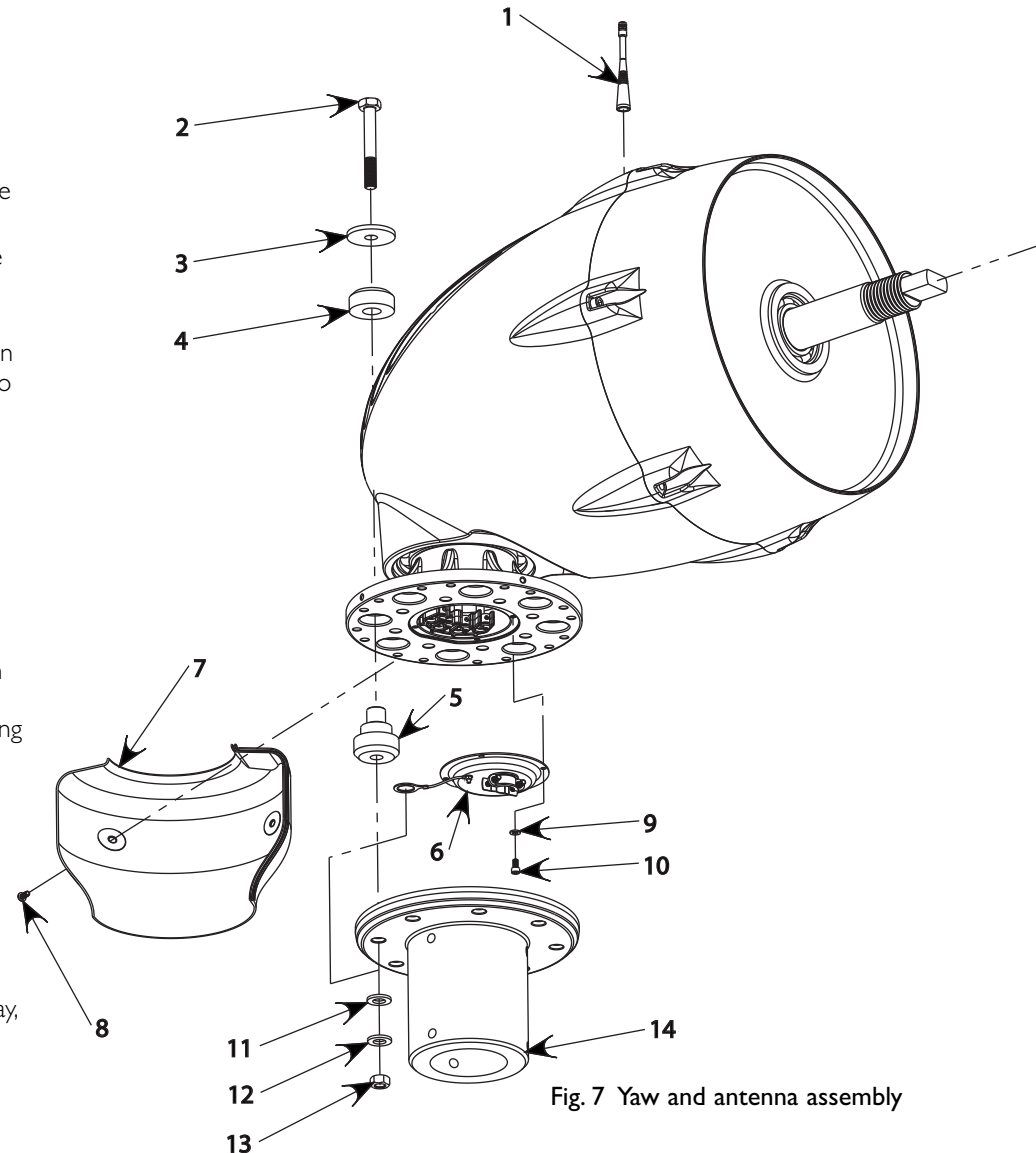

Fig. 7 Yaw and antenna assembly
Refer to Fig. 7 (page 16) for visual aid.
- Install the vibration isolators on yaw flange as shown in Fig. 7 (page 16). Install snubbing washers and bolts in vibration isolators.
**Note:** The orientation of the vibration isolators is very important. Refer to Fig. 7.
- Mount yaw shield halves using four M5 button head screws. See Fig. 7 (page 16). Use Loctite® 242 supplied with Skystream.